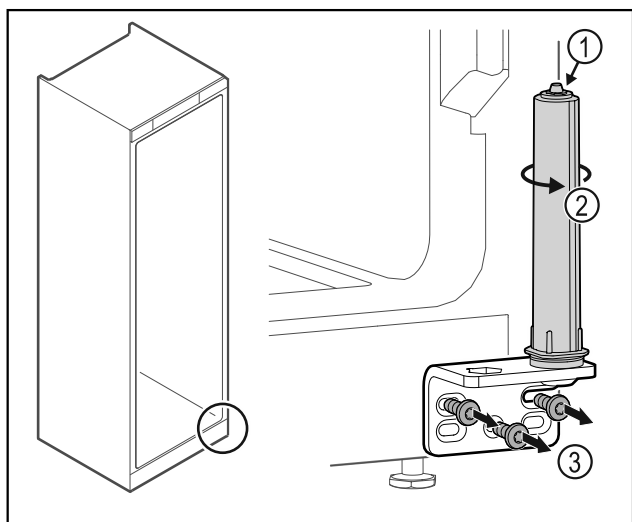

Fig. 29
- Do not disassemble the door closing system Fig. 29 (1).
- Turn the closing system Fig. 29 (2) until it clicks.
- Unscrew the hinge Fig. 29 (3).